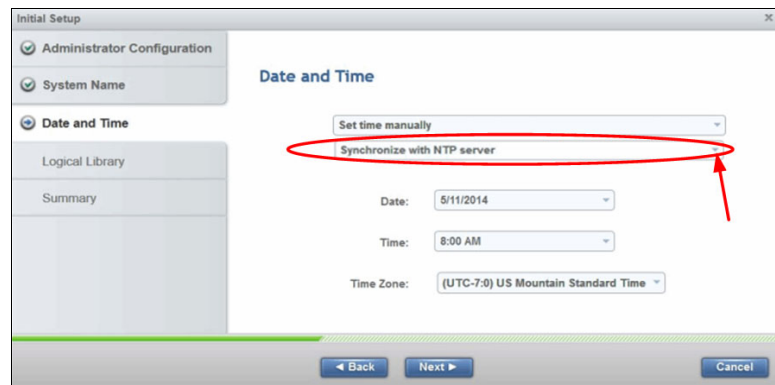

Figure 4-6 Date and time
2. In the next window, you can set the date and time for the library manually. Optionally, you can synchronize with a Network Time Protocol (NTP) server, as shown in Figure 4-6.